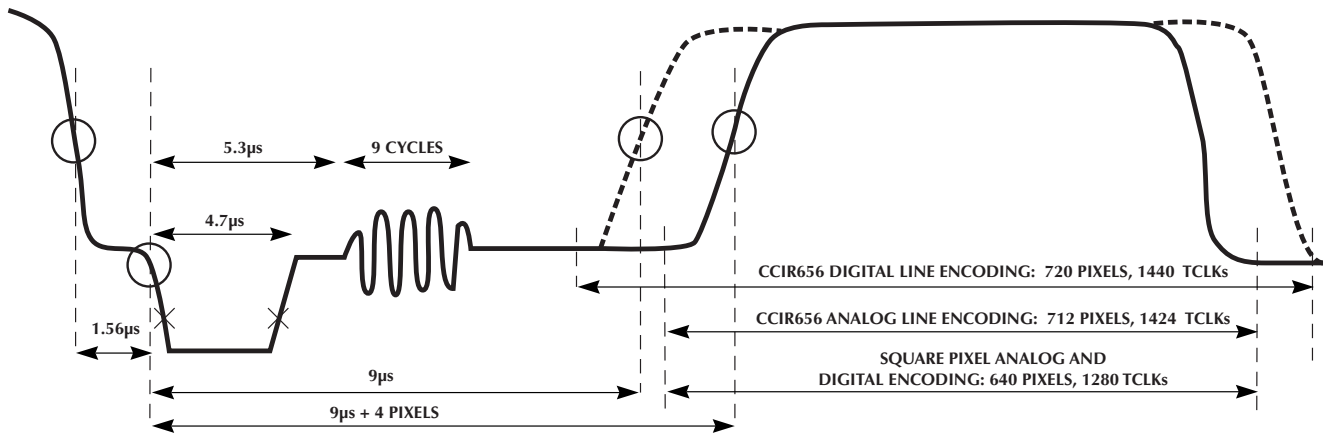

Figure 14. Timing of Horizontal Blanking Interval and Active Video
**ANALOG\_HBLANK, B24** This bit determines whether the ML6460 is to encode for ITU\_R656\_compliant "digital" or ITU\_/SMPTE\_compliant "analog" encoding specifications. When this bit is cleared (B24=0), the ML6460 is optimized for full "digital" line encoding, where the number of active pixels is 720 for CCIR656 rates and 640 for square pixel rates. No tapering (edge smoothing) is done to the beginning and end of the active portion of the line. When this bit is set (B24=1), the ML6460 is optimized for "analog" line encoding, where the number of active pixels is 712 for CCIR656 rates and 640 for square pixel rates. The beginning and end of the active video portion of the line is tapered (smoothed) to minimize ringing introduced due to fast transitions. Figure 14 below illustrates the timing comparisons.